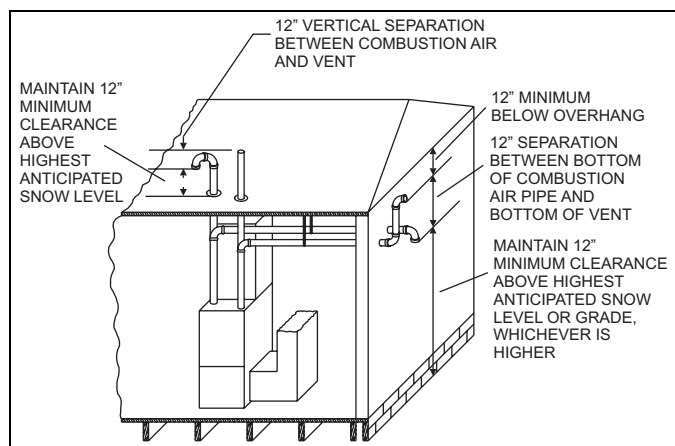
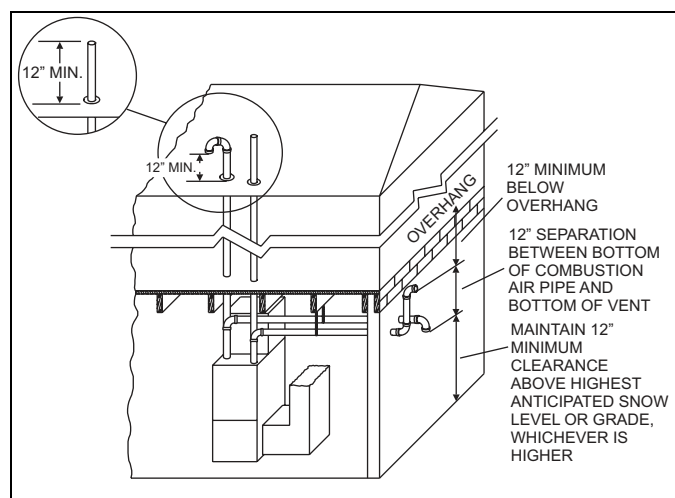
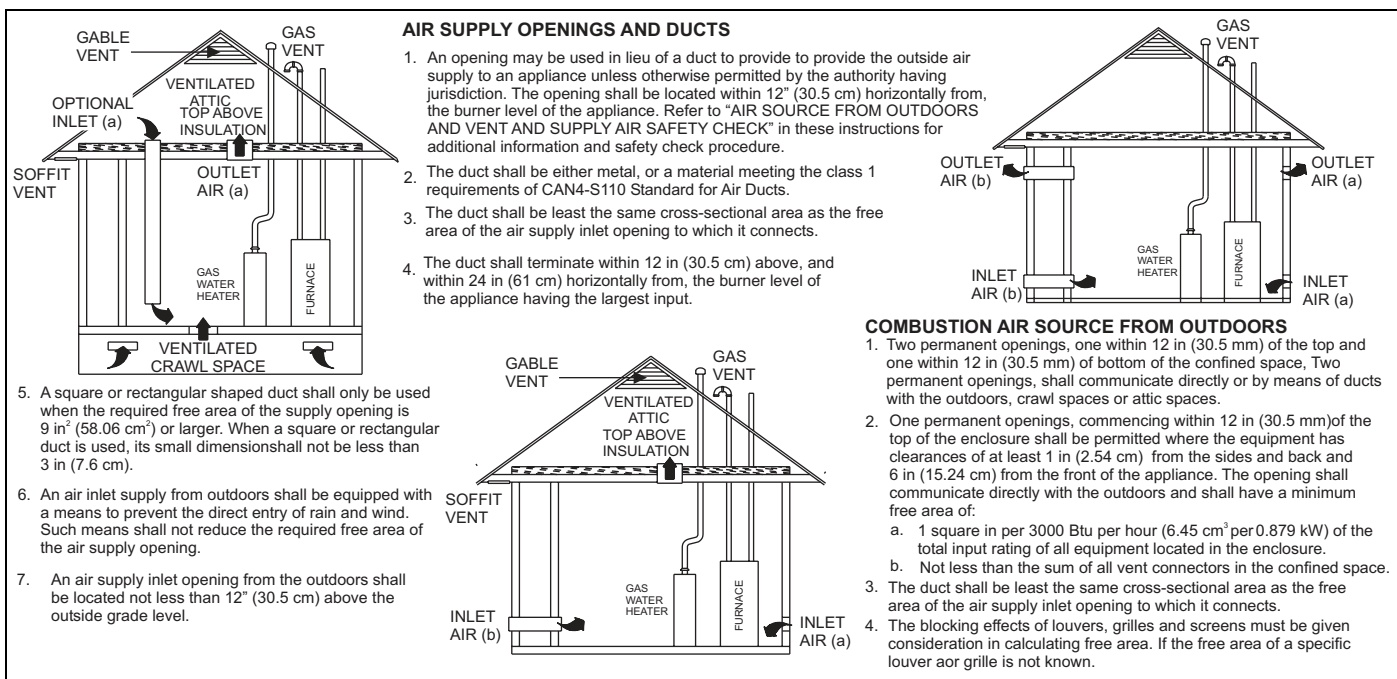

FIGURE 12: Termination Configuration - 2 Pipe
FIGURE 13: Termination Configuration - 2 Pipe Basement
FIGURE 18: Outside and Ambient Combustion Air
7. Sealed combustion air systems must be installed so the vent and the combustion air pipes terminate in the same atmospheric zone. Refer to Figures 13 or 14.
6. Sealed combustion air systems must be installed so the vent and the combustion air pipes terminate in the same atmospheric zone. Refer to Figures 13 or 14.
The combustion air side of the single pipe configuration shown in Figure 18 is referred to in these instructions as ambient combustion air supply. Follow the instructions for ambient combustion air installations, paying particular attention to the section on air source from inside the building. The vent for a single pipe system must be installed as specified in the venting section of these instructions with the vent terminating as shown in Figure 12. Each furnace must have a separate vent pipe. Under NO circumstances can the two vent pipes be tied together.
2. **AMBIENT COMBUSTION AIR:** Combustion air is supplied from the area surrounding the furnace through vents or knockouts in the furnace casing. The combustion air and the vent pipes are not terminated in the same atmospheric zone. Refer to Figure 13 for vent terminations. Refer to "AIR SOURCE FROM INSIDE THE BUILDING" and "VENT AND SUPPLY AIR SAFETY CHECK" for proper installation. Refer to Figure 18.
This type installation will draw the air required for combustion from within the space surrounding the appliance and from areas or rooms adjacent to the space surrounding the appliance. This may be from within the space in a non-confined location or it may be brought into the furnace area from outdoors through permanent openings or ducts. It is not piped directly into the burner box. A single, properly sized pipe from the furnace vent connector to the outdoors must be provided. For upflow models combustion air is brought into the furnace through the unit top panel opening. Do not install a pipe into the intake collar on top of the burner box. Refer to Figure 18.